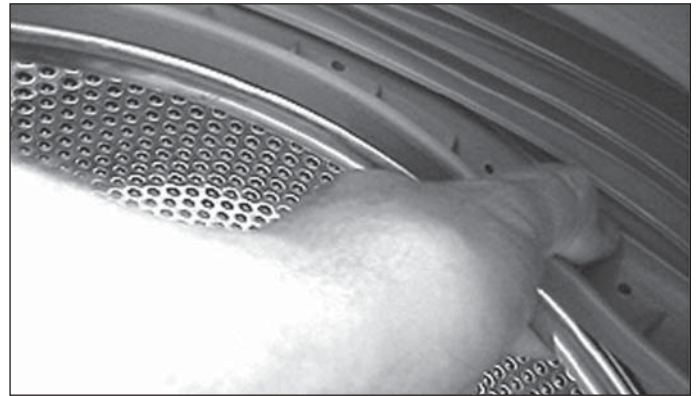

Figure 4-43.
3. Place the slot over the tab and while holding the bellows in place with one hand, place other hand inside bellows and force the groove of the bellows over lip of tub with your thumb. (See Figure 4-43)